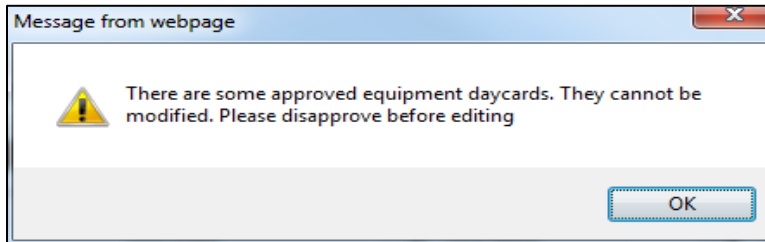

Figure 4-28. Example Message of Approved Day Card Conflict
- If an existing Day Card has been approved and thereby is not replaceable, the user receives a warning message (Figure 4-28).